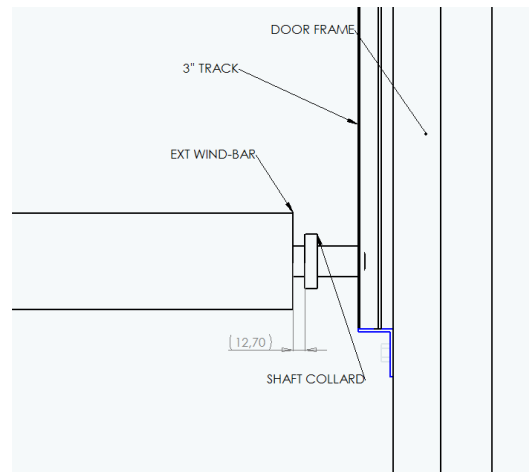

Figure 25
- 3- Open the door, wait for it to stop. Be sure the wind bar clears the opening. If not, pull on the excess drive belt at its fastening point in step 5 (Figure 25). Run door again. If all is okay, cut the excess belt, if required.